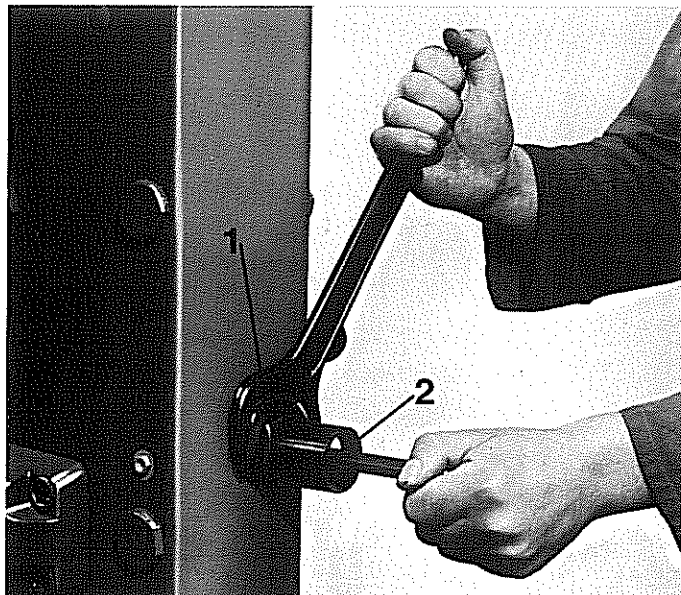

Fig. 25: Adjusting the slide guide at the upper face
a) Adjustment at the face (Figs. 25 + 26): Loosen the upper and lower lock nuts 1 between the coper-notcher jaws, and turn the two pressure screws clockwise until you clearly notice a resistance. Then slightly loosen the pressure screws again by turning them about 1/16 of a revolution in the anticlockwise direction, and retighten the lock nut 1.